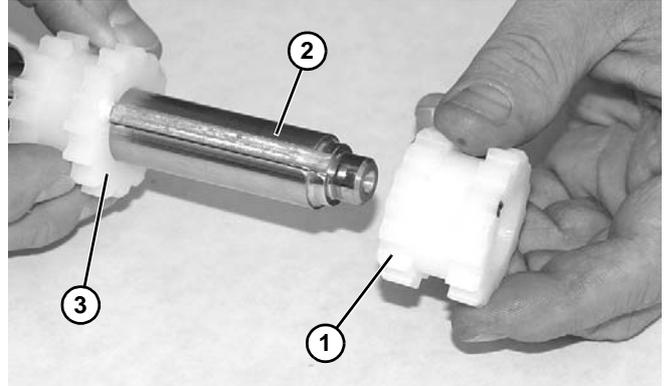

**Figure 55**
3. Slide free moving sprocket(s) (**Figure 55, item 1**) off the end of pulley (**Figure 55, item 2**).
4. Measure location of fixed sprocket (**Figure 55, item 3**), loosen set screw, and remove fixed sprocket.